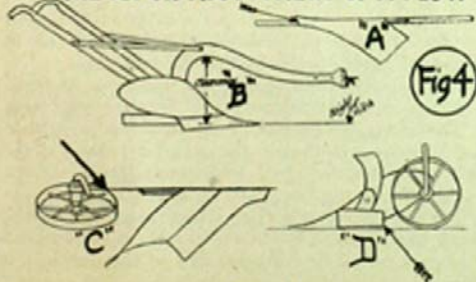
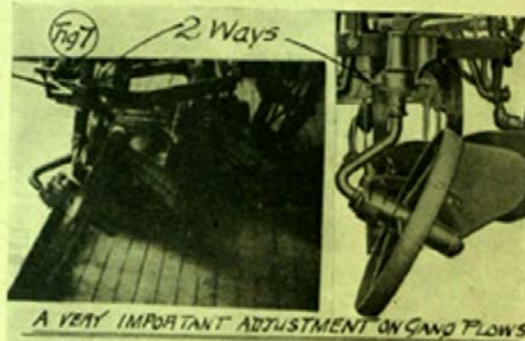

Figure 4.
Figure 7.
hand side of the same illustration show how suction is adjusted in engine plows. However, this should be a last resort. A walking plow is given "bearing" at the wing of the share, more in moist soil than in hard, dry soil. This is required to hold the plow level and prevent it "winging" over. A gang plow share does not require any because the bottom is held up by the bails (the U-shaped bars on which the beams swing). Turn the plow up and lay a straight edge from the heel of the landside to the wing of the share. Figure 6 "A" shows "suction" on bottom of landside. Figure 4 "A" shows suction to the land. Figure 6 "C" shows a share suitable for moist, soft soil. Figure 6 "B" shows a share in form for hard, dry soil or a gang plow. Figure 6 "D" shows a share that would do well for an average gang plow. You can readily see that, if by mistake a shipper sends you one of each kind when you order a new set for your plow, one furrow will be deeper than the other and the source of trouble
has puzzled even the best plowmen; perhaps you may have had this experience. In a gang plow the friction on the bottom of the landside is eliminated as far as possible by carrying it on well-oiled bearings. There should be from $3/16$ " to $1/2$ " at the point marked "D" figure 4, and also in Figure 6 "D". The rear furrow wheel is also set outside the line of the landside as shown at "C" in Figure 6. This holds the landside away from the furrow wall to some extent and a small adjustment at this point will give more pressure to the moldboard and the plow will often scour better. Figure 7 shows two methods of adjusting the rear furrow wheel. In some cases two set screws are used for making this adjustment, while some plows have two slotted holes, so that the wheel can be moved one way or the other. See that there are spring washers at every bolt, or else have a hot rivetted frame wherever it is possible. A loose frame will cause no end of trouble.
Figures 7 A and B show the two adjustments which were confused. The adjustment, the set screw, to make a plow "float" is not understood as well as it ought to be.
2. For plowing down trash or manure so as to give the plow plenty of "clearance" (see Fig. 4 "B").